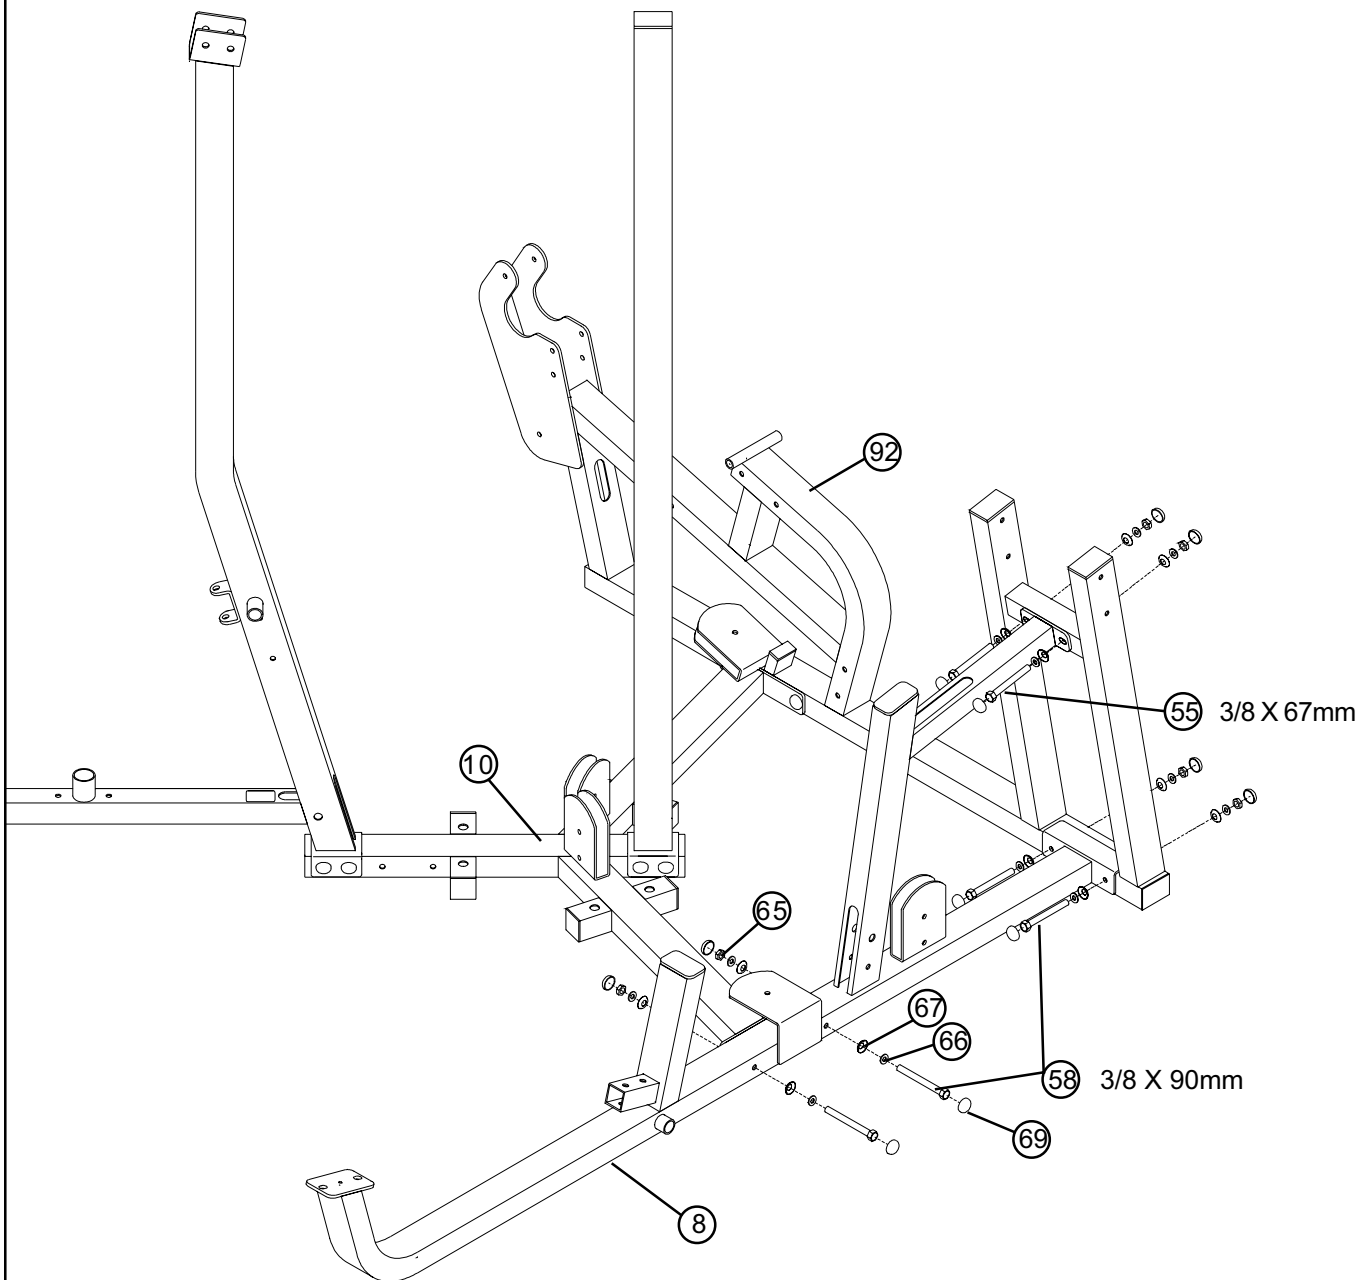

FIGURE 4
LOOSELY assemble the MULTI PRESS FRAME (8) to the LEG CURL/EXT FRAME (92) using eight RH CAPS (69), two 3/8 X 90mm BOLTS (58), two 3/8 X 67mm BOLTS (55), eight 3/8" SAE WASHERS (66), eight 3/8" RH WASHERS (67) and four 3/8" LOW HEIGHT LOCK NUTS (65) as shown in FIGURE 4.
LOOSELY assemble the MULTI PRESS FRAME (8) to TOWER BASE (10) using four RH CAPS (69), two 3/8 X 90mm BOLTS (58), four 3/8" SAE WASHERS (66), four 3/8" RH WASHERS (67) and two 3/8" LOW HEIGHT LOCK NUTS (65) as shown in FIGURE 4.